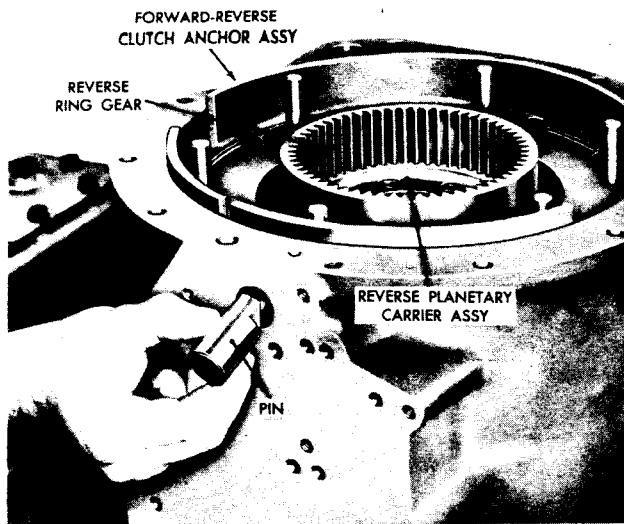

Fig. VII-25. Installing (or removing) forward-reverse clutch anchor pin
(4) Install the forward and reverse clutch anchor assembly, shorter end of pins downward, into the transmission housing (fig. VII-25).
(5) Align the slot in the clutch anchor with the anchor hole in the housing and install the clutch anchor pin (fig. VII-25).